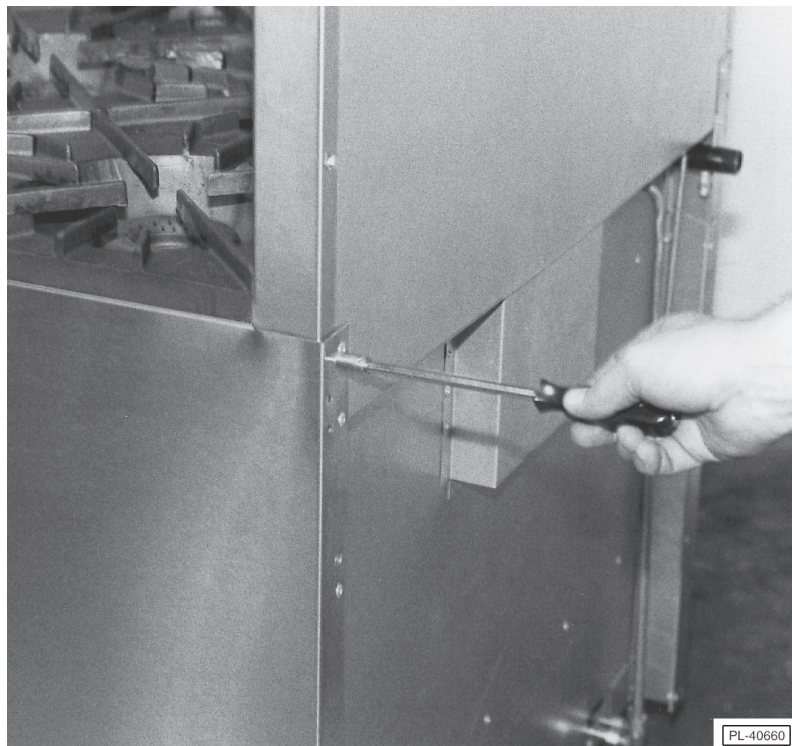

Fig. 9
6. Install eight #10 sheet metal screws (4 to each channel leg) (Fig. 9).